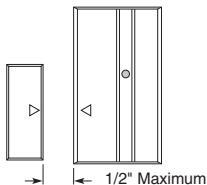
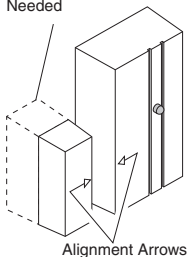

Figure 3
Figure 4
5. **Mount sensor.** Use either screws or double sided tape to mount push button. **IMPORTANT:** The maximum gap between sensor and magnet is 1/2" (13 mm) (see Figure 3). The arrows located on the face of each component must be aligned and facing toward each other (see Figure 4). The magnet must be beside the sensor. *Note:* If the magnet is recessed, use spacer to ensure proper alignment (see Figure 4).